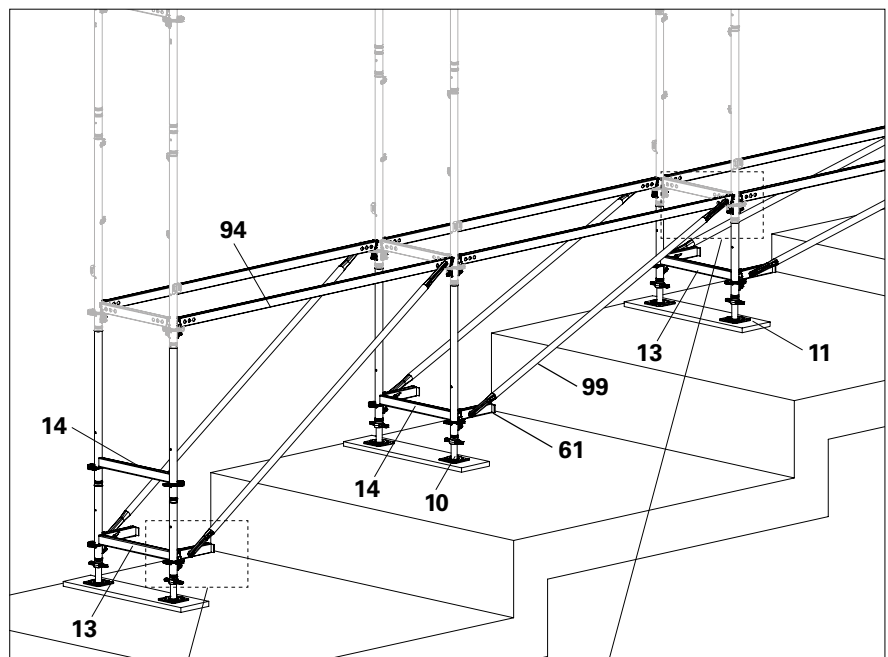

Fig. B1.03
2. Mount Support UC 33 (**61**) on the $\frac{3}{4}$ rosettes of the Base Compensation EVA (**13/14**). Secure the wedges. (Fig. B1.03)